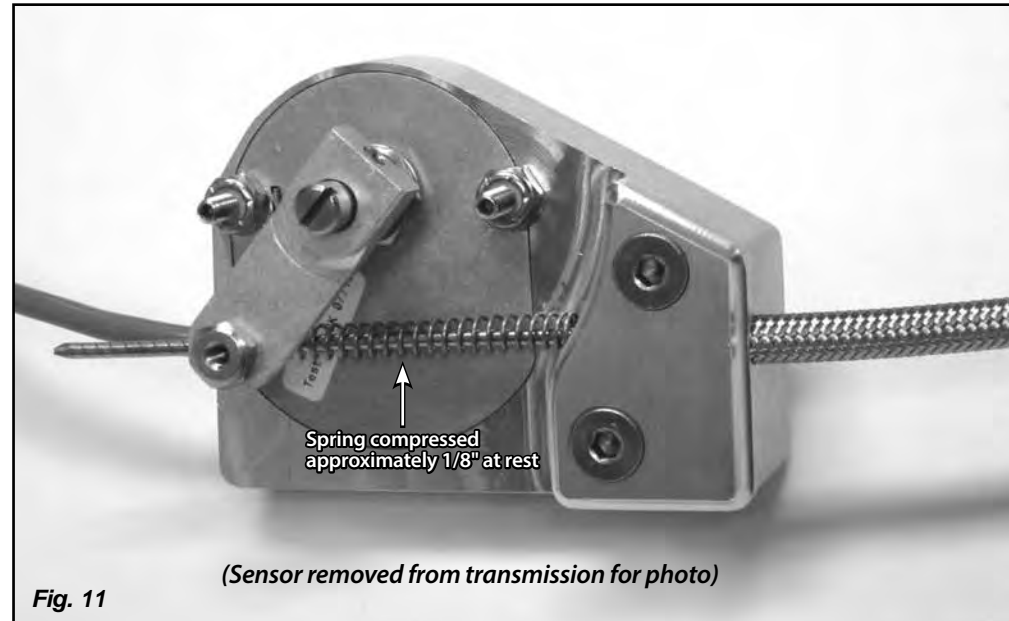

Fig. 11
**Step 12:** Make sure the transmission is in Park. **Push the sensor arm up against the spring, so that the spring is compressed approximately 1/8" at rest in Park. Fig. 11** Tighten the set screw in the index cable stop on the sensor arm using a 1/16" Allen wrench. Trim the excess inner wire, leaving about 1" protruding.